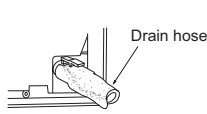

Fig. 4
- According to the piping direction, cut off the shaded part of the left side of box (Fig.4) or corner box (Fig. 5).
- 5) Insert the drain hose fully into the drain pan at the rear right of the indoor unit. (Fig. 4)
- 6) Insert the drain hose into wall hole sleeve (C), and hook the upper part of indoor unit on installation plate (1). Then, move the indoor unit completely to the left in order to make placing the piping in the back space of the unit easier.
- 4) Flaring work (Fig. 4, 5). Firmly hold copper pipe in the dimension shown in the table. Select A mm from the table according to the tool you use.